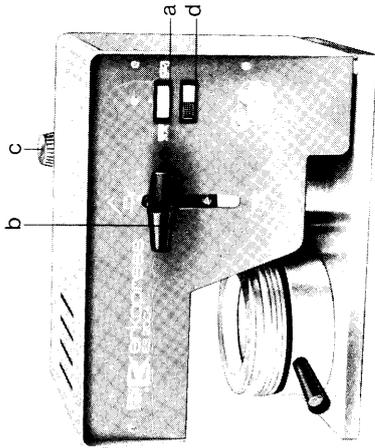

Fig. 1
**Description (fig. 1)**
1. Connect machine to a compressor air line with a high pressure flexible hose (Fig. 1/c).
4. Switch on infra-red heater, press button (Fig. 1/a), (turn to the left [Fig. 1/d], pilot lamp flashes green).
7. Put device for protective shield down (Fig. 1/b).
8. Switch on the blow-head (Fig. 1/a) (switch turned to the right – pilot lamp [Fig. 1/a] flashes white).
10. Turn switch (Fig. 1/a) to "0" (mid-position).
11. Lift device for protective shield, (Fig. 1/b) take out the flask.